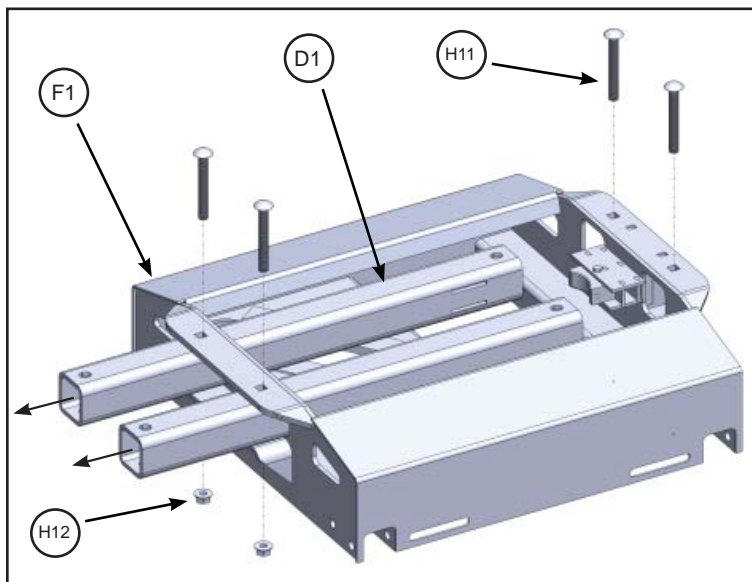

Figure 2
3. Remove the four 1/2" bolts {H11} that fasten the way tubes to the base of the hitch. Retain the bolts and flange nuts {H12} (see Figure 2).
4. Pull both way tubes from the forward bulkhead by pulling them both toward the rear (tailgate end) of the hitch enough to where they are free from the front end (see Figure 2).